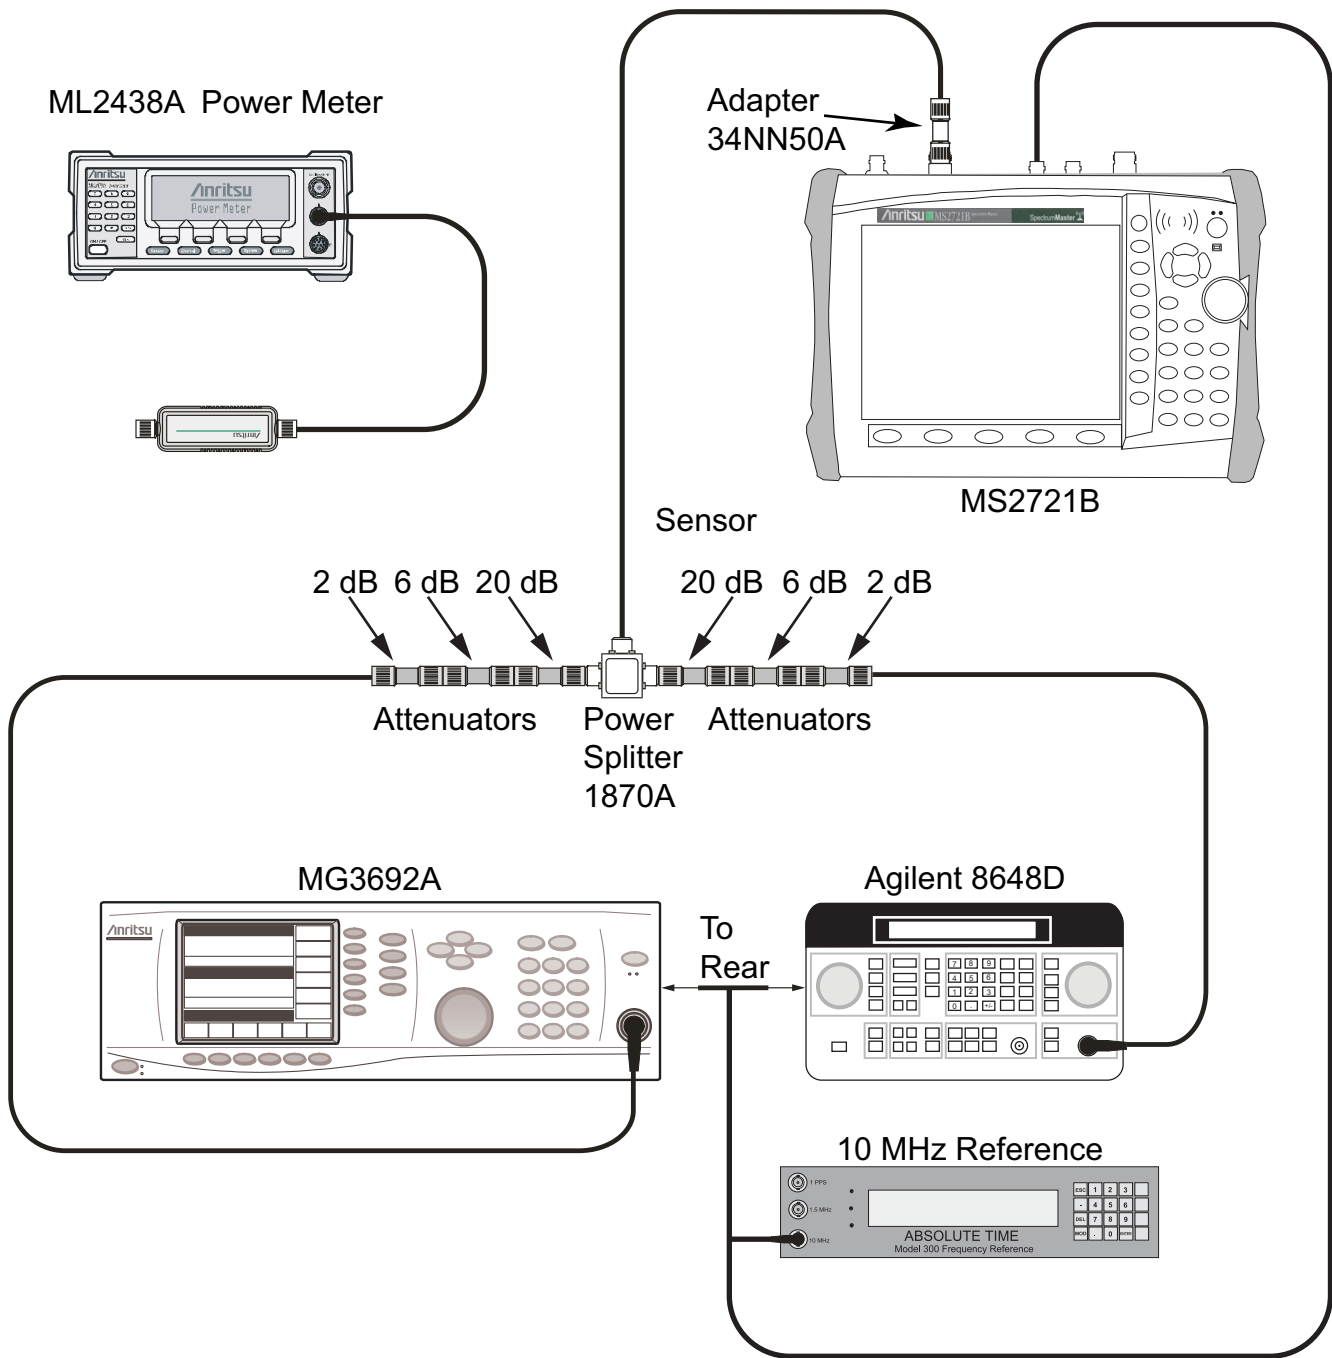

Figure 2-6. 600 MHz TOI Verification Test Setup
10. Disconnect the power sensor from the "output" of the splitter and connect the splitter "output" to the MS2721B Spectrum Analyzer RF In connector through the Anritsu Model 34NN50A adapter, as shown in Figure 2-6.
12. Press the **Shift** key and then the **Trace** (5) key. Press Trace A Operations, and set # of Averages to 2.